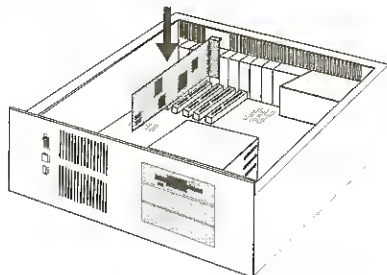

Figure 2-7: Inserting 3DO Blaster into slot.
6. Align your 3DO Blaster's gold-stripped expansion bus connector with the free expansion slot and gently lower your 3DO Blaster into the slot (see Figure 2-7).